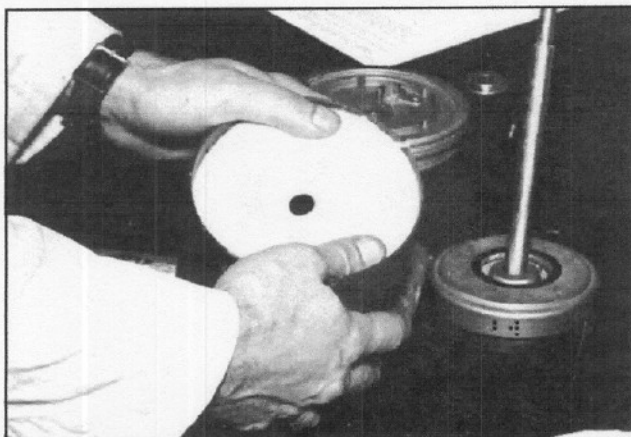

FIGURE 8 - ASSEMBLY OF DESICCANT CARTRIDGE
4. Insert one of the perforated plates into the cartridge, **cloth side up**, and tap it firmly to the bottom. (Cloth always faces desiccant material.) (See Figure 8)